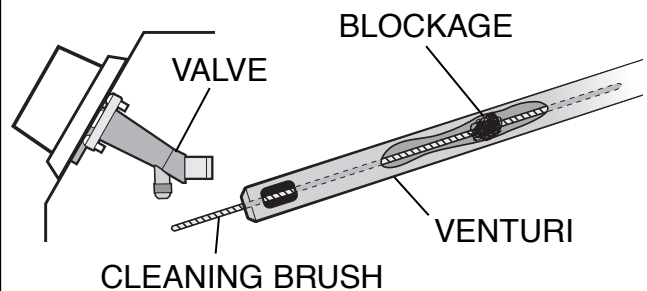

Fig. 8
- Use a venturi cleaning brush and insert the brush into the venturi tube 1 inch at a time, then remove to prevent moving the debris upwards (see Figure 8).
- Visually check the flames every time you light your barbecue (Figure 10). If the flame is abnormally small or a smoky yellow -- shut off the barbecue and check the venturi tubes for blockage (see Figure 8) or refer to the Troubleshooting Guide.